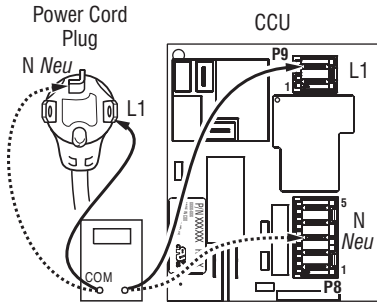

Figure 4b - Plug-to-terminal connections for electric dryer.
4. With an ohmmeter, check the continuity from L1 and N plug terminals of the power cord to the terminals for L1 and N on the CCU. See Figure 4b.